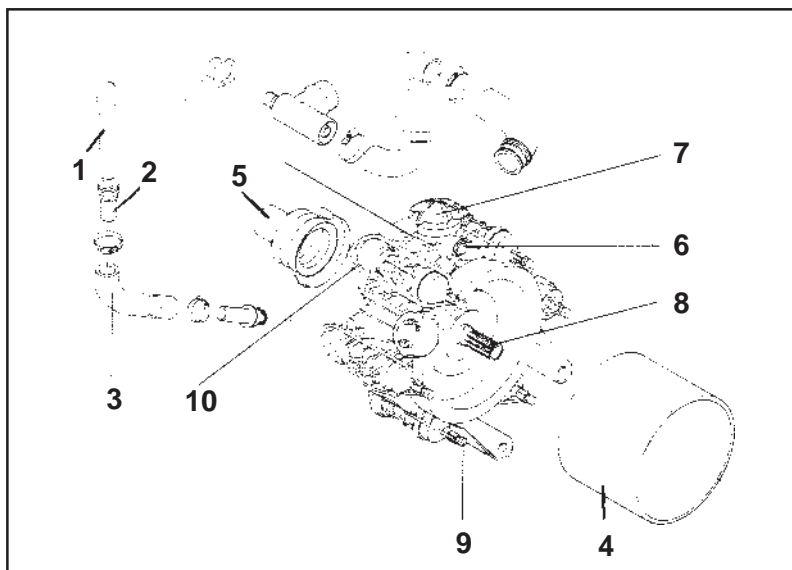

Fig. 9.1
- Spin drive shaft (Fig. 9.1/ 8) by hand until all old oil is fully drained off.